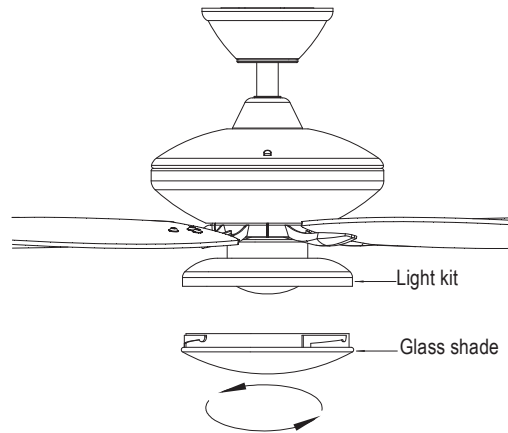

Fig. 17
**Step 1.** Raise the glass shade against the light kit and turn clockwise until snug, DO NOT OVERTIGHTEN. (Fig. 17)